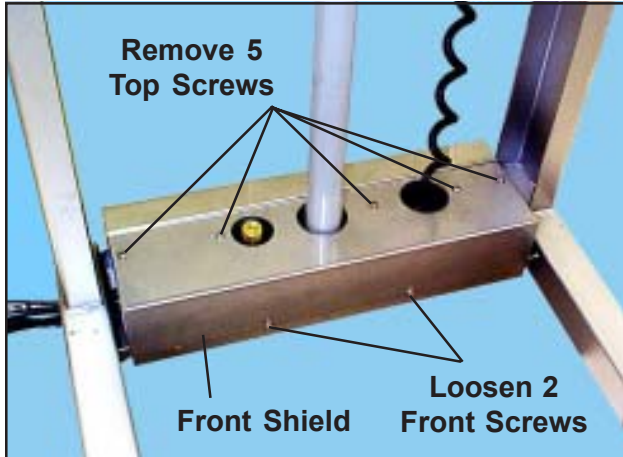

Figure 28. Removing the Front Shield
4. With a Phillips screwdriver, slightly loosen the two front screws, and remove the five top screws on the front shield (Figure 28).
28. Replace the front shield, tighten the two front screws and replace the five top screws (Figure 28).